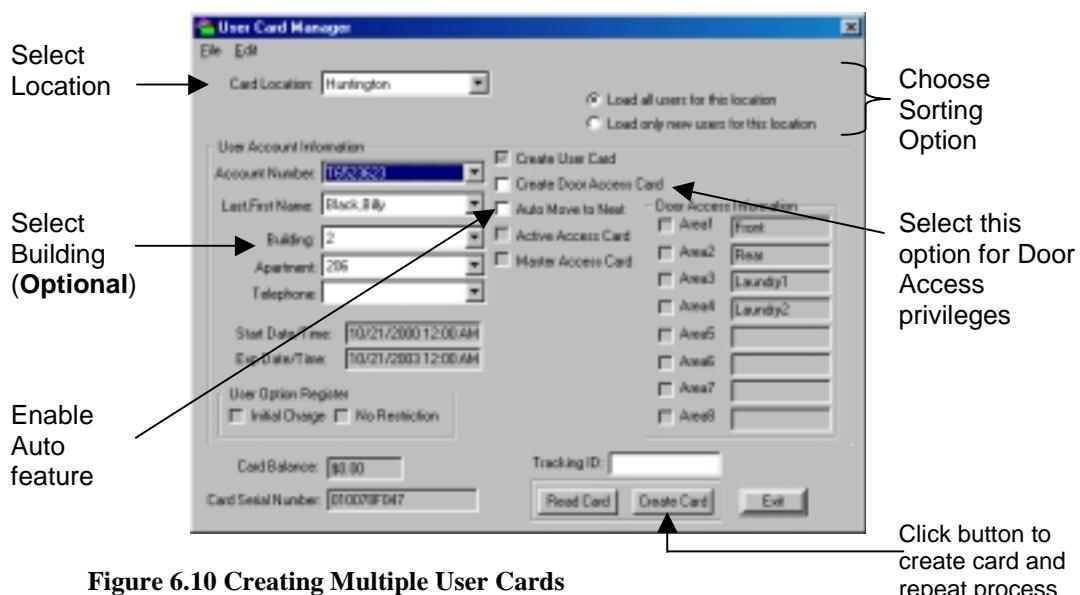

Figure 6.10 Creating Multiple User Cards
2. Select the users' location from the User Location drop down selection (Figure 6.10).
3. If cards are being created only for new users, select the “Load only new users for this location” option (Figure 6.10).
4. If cards are being created only for a specific building for this location, select the building from the Building drop down selection (Figure 6.10).
5. If these user cards are to be used for door access privileges, enable the “Create Door Access Card” option by clicking on it (Figure 6.10).
6. Enable the “Auto Move to Next” option (Figure 6.10). This will automatically go to the next new user to be created in the list.
8. Click the Create Card button (Figure 6.10).